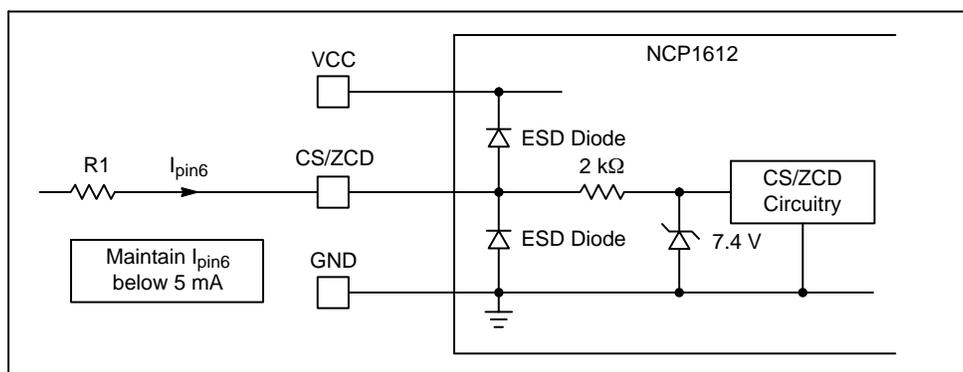

Figure 2.
- Maximum CS/ZCD current that can be injected into pin6 (see Figure 2).